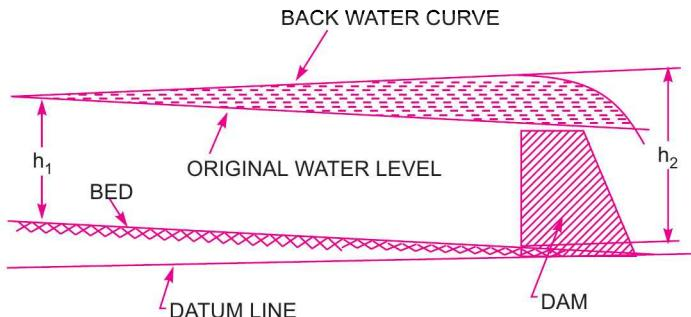

Fig. 16.30 Back water curve and afflux.
16.9.2 Back Water Curve and Afflux. Consider the flow over a dam as shown in Fig. 16.30. On the upstream side of the dam, the depth of water will be rising. If there had not been any obstruction (such as dam) in the path of flow of water in the channel, the depth of water would have been constant as shown by dotted line parallel to the bed of the channel in Fig. 16.30. Due to obstruction, the water level rises and it has maximum depth from the bed at some section.